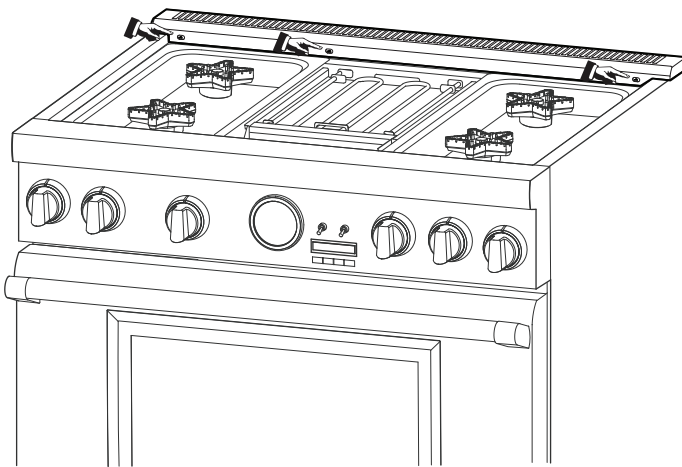

Figure 21: Flush Island Trim Front Face Screw Removal
1. Depending on model, remove the (3) or (5) T-20 Torx stainless screws in the front face of the included Flush Island Trim (Figure 21).